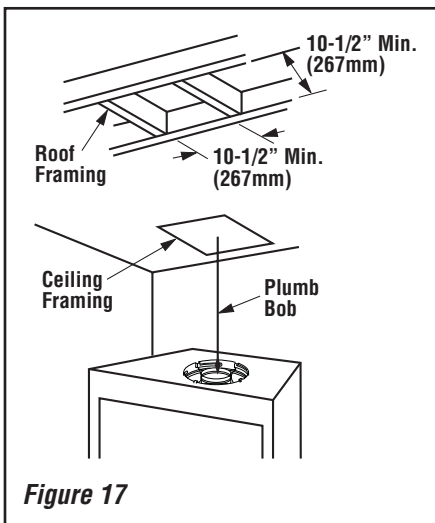

Figure 17
A. Frame ceiling opening - Use a plumb line from the ceiling above the appliance to locate center of the vertical run. Cut and/or frame an opening, 10-1/2" x 10-1/2" (267mm x 267mm) inside dimensions, about this center mark (**Figure 17**).
If the vertical route is to penetrate a ceiling, use plumb line to locate the center above the appliance. Cut and/or frame an opening, 10-1/2" x 10-1/2" (267 mm x 267 mm) inside dimensions, about this center (refer to **Figure 17** on **Page 14**).